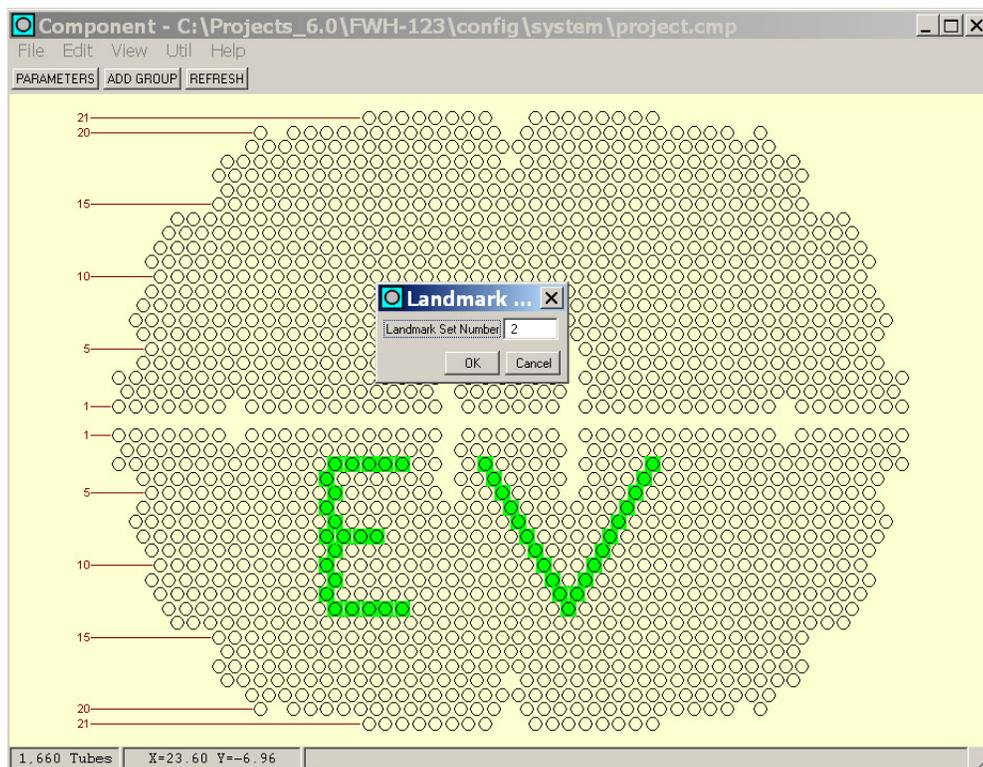
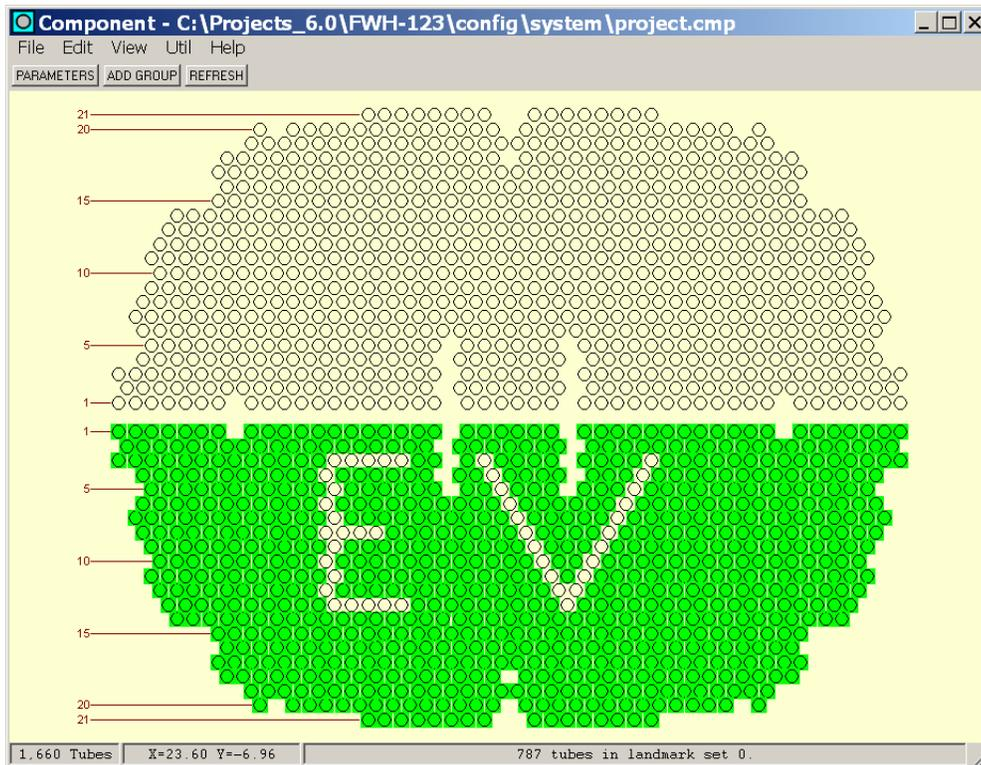

Figure 52. Assigning Selected Tubes to a Different Landmark Set (Set Landmark Set)
Figure 53. Landmark Set '0' (Zero) After Reassigning Selected Tubes to a Different Landmark Set
- **Popup | Set Landmark Set:** This feature provides way for the user to assign *any* selected tubes to an existing or new landmark set. In Figure 1, the feedwater heater *cmp* file has two (2) landmark sets, '0' (*zero*) and '1'. Landmark set '0' is assigned to all the inlet leg tubes on the lower half of the tubesheet map, while landmark set '1' is assigned to all the outlet leg tubes on the upper half. In Figure 52, a pattern of tubes has been selected on the inlet leg. Clicking **Set Landmark Set** on the **Popup** menu causes the **Landmark** dialog box to appear as shown in Figure 52. In this example, '2' has been entered in the **Landmark Set Number** field. Clicking **OK** on this dialog will cause the selected 'EV' tubes to be reassigned to a new landmark set numbered '2.' Now, when landmark set '0' is selected on the *fly-out* menu after clicking **Popup | Select Landmark Set**, the user would now see the result in Figure 53. This indicates that the 'EV' pattern of tubes is no longer using landmark set '0'. In addition to using manual select as shown in this example, **Select Group**, **Select Section**, and **Select Row** may also be used with this feature.